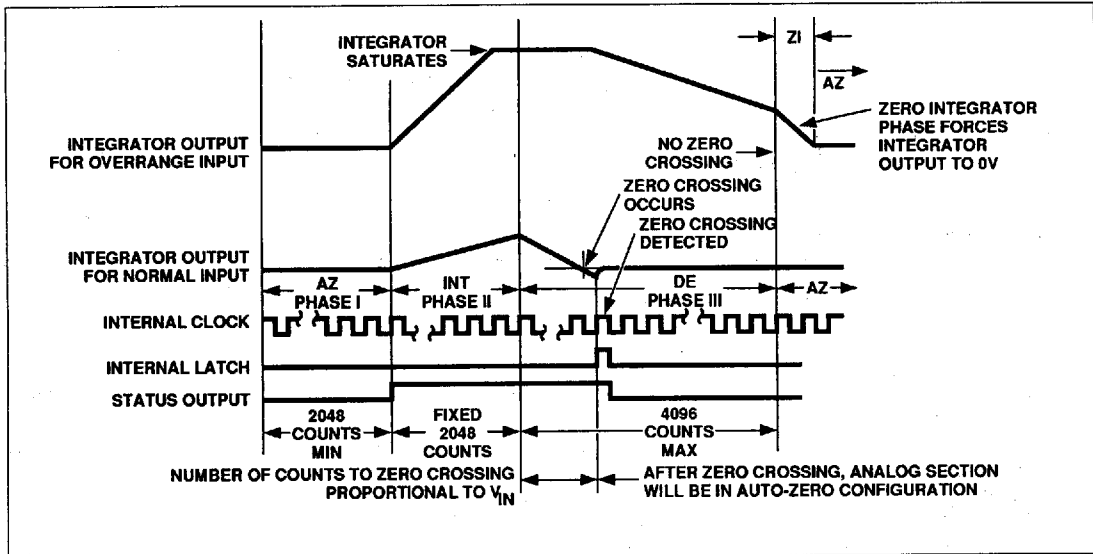

Figure 3 Conversion Timing (RUN/HOLD Pin High)
The functional diagram shows a block diagram of the analog section of the TC7109A. The circuit will perform conversions at a rate determined by the clock frequency (8192 clock periods per cycle), when the RUN/HOLD input is left open or connected to  $V^+$ . Each measurement cycle is divided into four phases, as shown in Figure 3. They are: (1) Auto-Zero (AZ), (2) Signal Integrate (INT), (3) Reference Deintegrate (DE), and (4) Zero Integrator (ZI).
During ZI, the reference capacitor is charged to the reference voltage. The signal inputs are disconnected from the buffer and integrator. The comparator output is connected to the buffer input, causing the integrator output to be driven rapidly to 0V (Figure 3). The ZI phase only occurs following an overrange and lasts for a maximum of 1024 clock periods.
During a conversion cycle, the STATUS output goes high at the beginning of signal integrate and goes low one-half clock period after new data from the conversion has been stored in the output latches (see Figure 3). The signal may be used as a "data valid" flag to drive interrupts, or for monitoring the status of the converter. (Data will not change while status is low.)
With the RUN/HOLD input high, or open, the circuit operates normally as a dual-slope ADC, as shown in Figure 3. Conversion cycles operate continuously with the output latches updated after zero crossing in the deintegrate mode. An internal pull-up resistor is provided to ensure a high level with an open input.